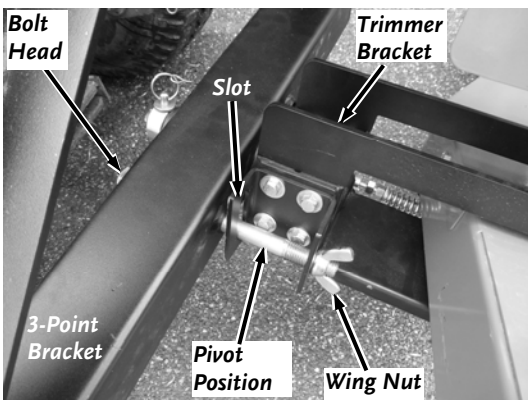

Figure 26
1. Install the Bolt into the left side "slots" location through the 3-Point Bracket and Trimmer Bracket (**Figure 26**).